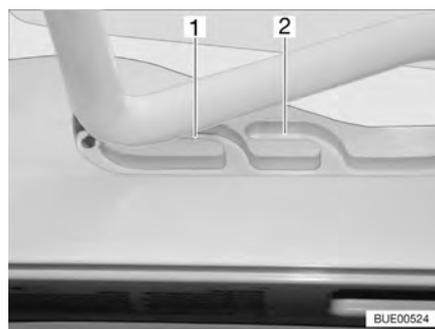
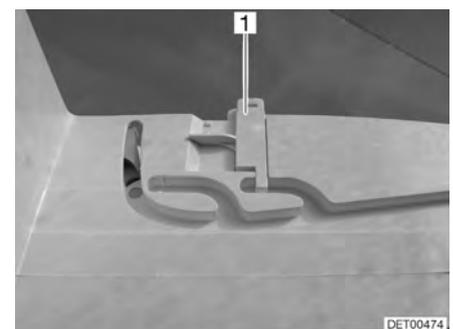

Fig. 66 Heki skylight in ventilation position
Fig. 67 Ventilation position locking mechanism
The Heki skylight can be put in two ventilation positions: Bad weather position (Fig. 66,1) and central position (Fig. 66,2). Depending on the model, the skylight can be locked in the central position with the latch (Fig. 67,1).
- Push the bar slightly upwards and into the selected guide (Fig. 66,1 or 2) and lock if necessary.